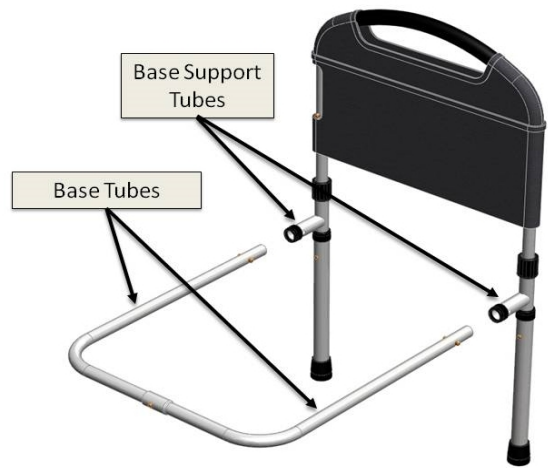

FIGURE 3
3. Attach Base Tubes into the Base Support Tubes as shown in Figure 3. Make sure the Spring Pins engage the hole in the Base Support Tubes.
NOTE: Safety Strap is not shown in Figure 3 for clarity purposes.